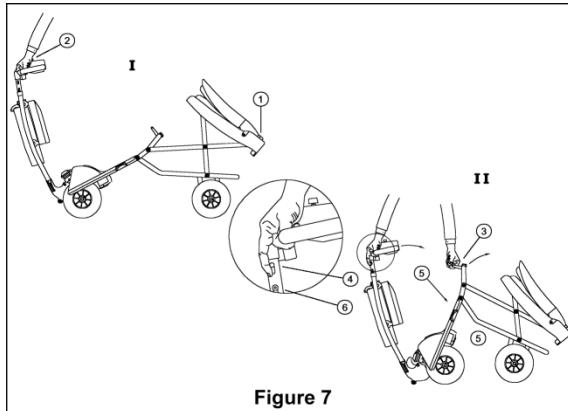

Figure 7
Step 1: Fold backrest of seat down and ensure it is locked (Fig. 7/1)
Step 2: Hold handgrip of front column (Fig. 7/2) in the “Operating” or “Entry/Exit” position and push forward away from seat to fold platform upwards.
Step 3: Grasp platform handle (Fig. 7/3) and pull column lock triggers (Fig. 7/4) to fold column towards
the platform. Fold together until folded frame lock pin (Fig. 7/5) and column latch (Fig. 7/6) click into place and hold ***EasyTravel*** in folded position.